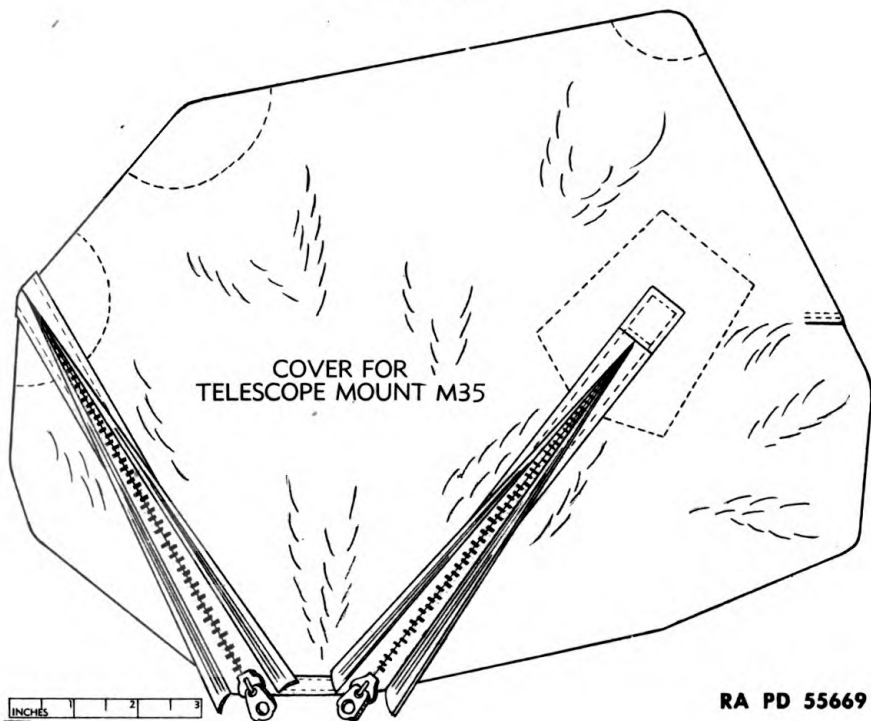

Figure 13—Cover for Telescope Mount M35
a. A cotton duck cover (fig. 13) with two zipper fasteners is furnished for the telescope mount.